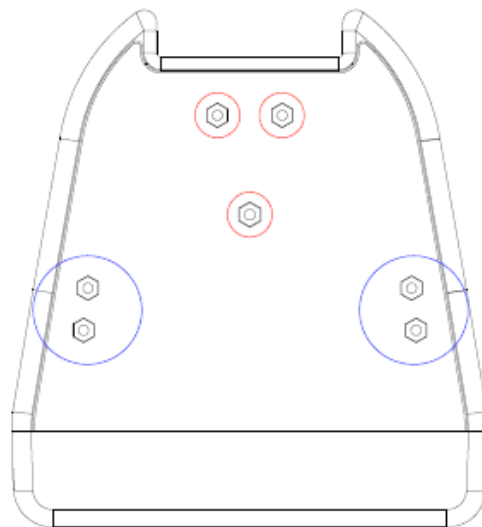

Figure 2
For the One Systems 112IM and 212CIM a total of three (3) M10 “eye” bolts must be used for either a top mount or bottom mount (if the enclosure is “upside down”) configuration, as shown in figure 2 below.